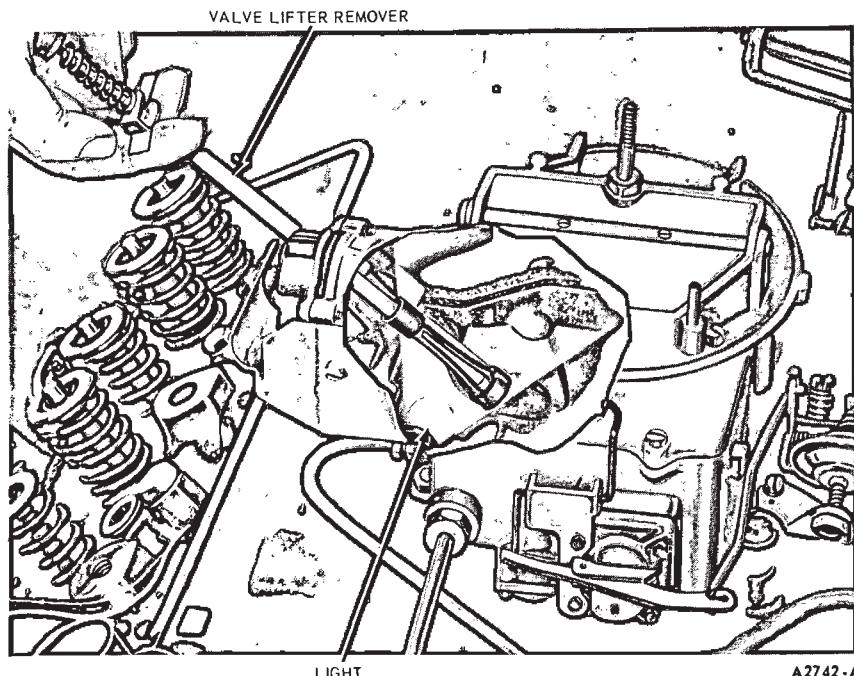

FIG. 30—Removing or Installing Valve Lifter Intake Manifold Installed
2. Position an inspection light to shine through the push rod opening and into the push rod valley (Fig. 30). Remove the lifters with a claw-type tool through the push rod openings. In some cases it will be necessary to transfer the lifter to an adjoining opening in order to remove it. Place the lifters in a rack so that they can be installed in their original positions.
rod openings with the lifter removal tool (Fig. 30). Install the push rods in their original positions.